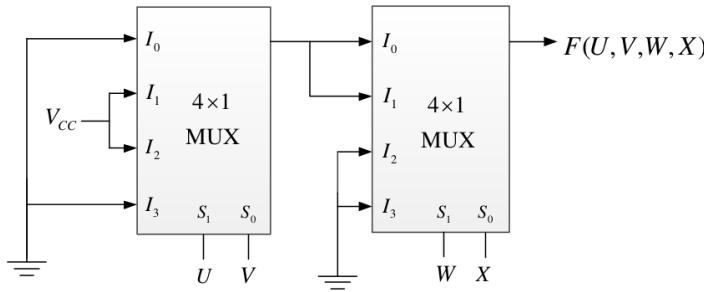

Fig. 4.16
30. A four-variable Boolean function is realized using 4×1 multiplexers as shown in the Fig. 4.16. The minimized expression for F is